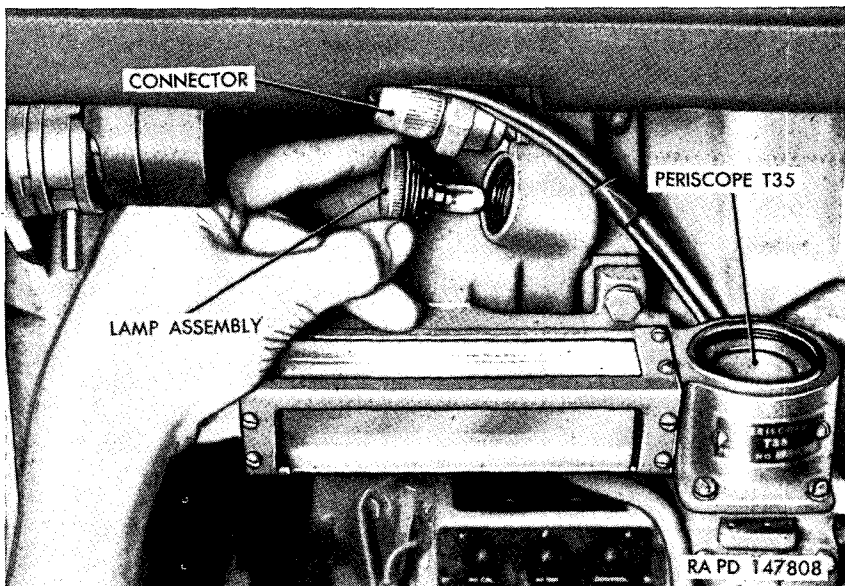

Figure 354. Replacing gun ready indicator lamp on periscope mount T176 and T177.
c. REPLACEMENT OF GUN READY INDICATOR LAMP ON PERISCOPE MOUNTS T176 AND T177 (fig. 354). Unscrew lamp assembly from periscope mount. Replace lamp. Install lamp assembly.